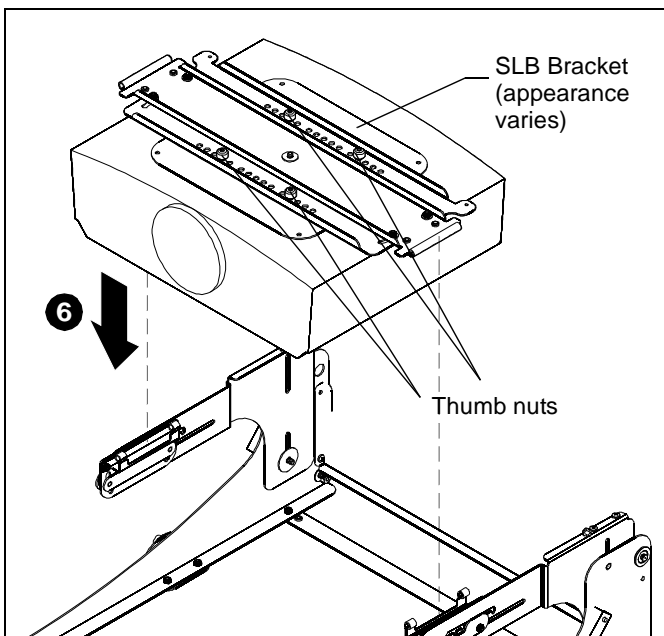

Figure 12
- Place the yaw adjustment bracket over the studs on the SLB bracket, selecting the set of holes that best centers the projector weight. (See Figure 12)
- Reinstall yaw adjustment bracket with projector to SL236 by setting it in place, and releasing tabs at each end of yaw adjustment bracket. (See Figure 12)